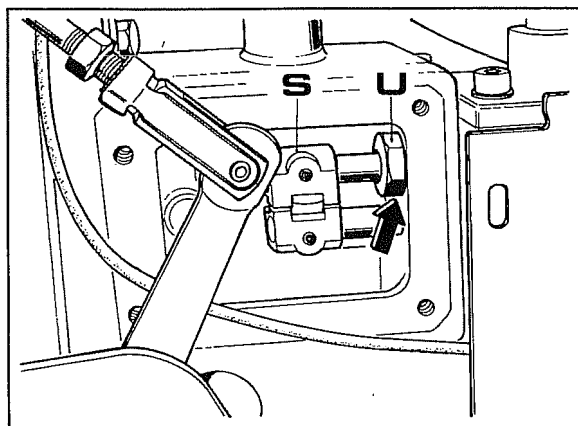
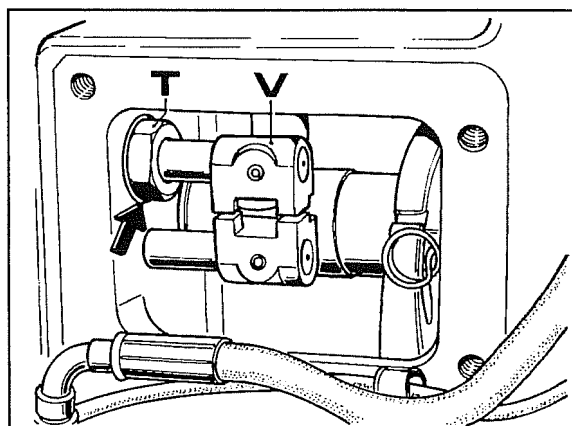

Fig. 3
Fig. 4
- 3 Check if the oil leak is on the creep gear control rod identified by the arrow in Fig. 3 or on the gear control rod identified by the arrow in Fig. 4.
- 4 Remove sleeve **S** and unscrew bushing **U** Fig. 3 or sleeve **V** and bushing **T** Fig. 4 based on the rod involved in the leak.